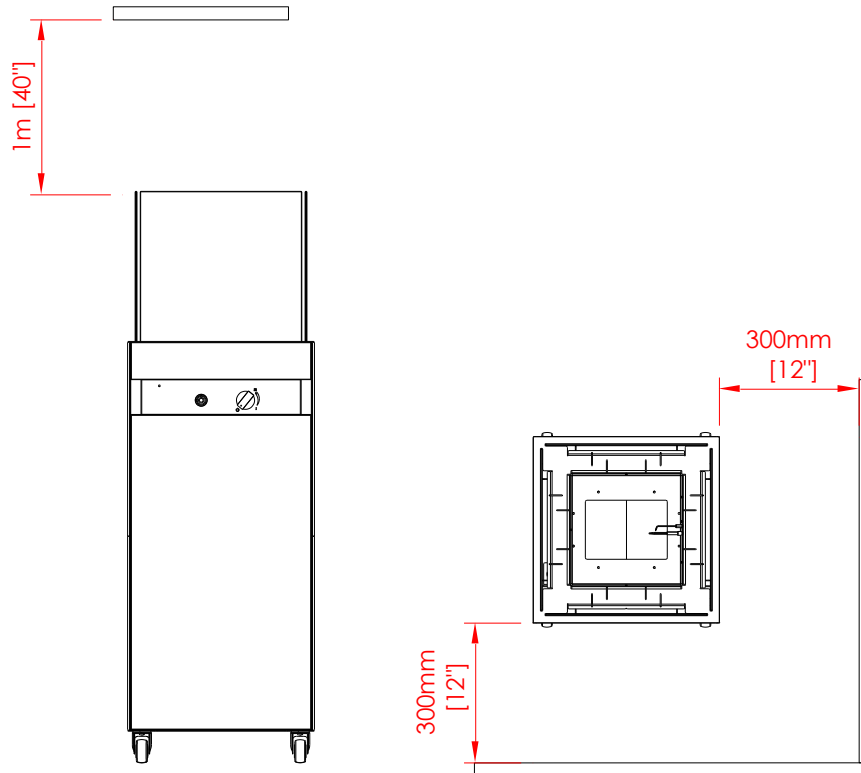

Fig 2 – Minimum distances
- This appliance must be kept away from flammable materials during use. Do not place any combustible materials within a distance of 0,3 m of OIA and 1 m over the appliance (Fig 2).